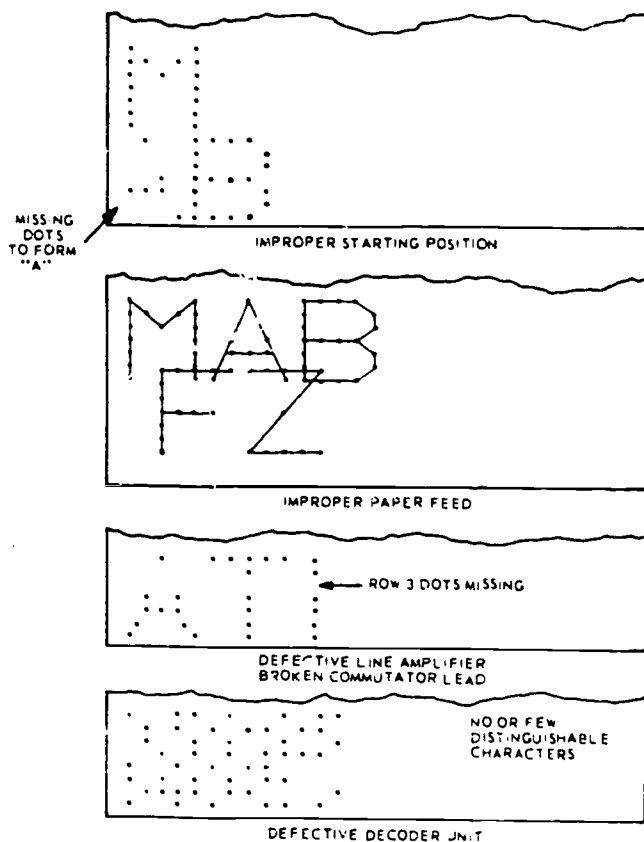

Figure 2-20. Defective printout.
Electrographic printers (O). The printout determines the operational capability of this printer. An accurate printout satisfies performance requirements for quality and accuracy. A defective printout such as that shown in figure 2-20 indicates (1) improper starting position of commutator brushes, (2) defective paper feed, (3) defective line amplifier or a broken commutator lead, or (4) defective decoder unit.